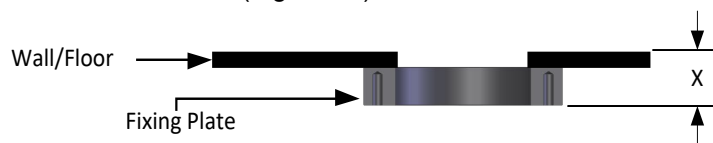

Figure 19: Measuring the Insertion Depth
1. Once the Fixing Plate has been welded into position over the appropriately sized hole, the distance from the external face of the Fixing Plate to the internal wall (x) should be measured (Figure 19).